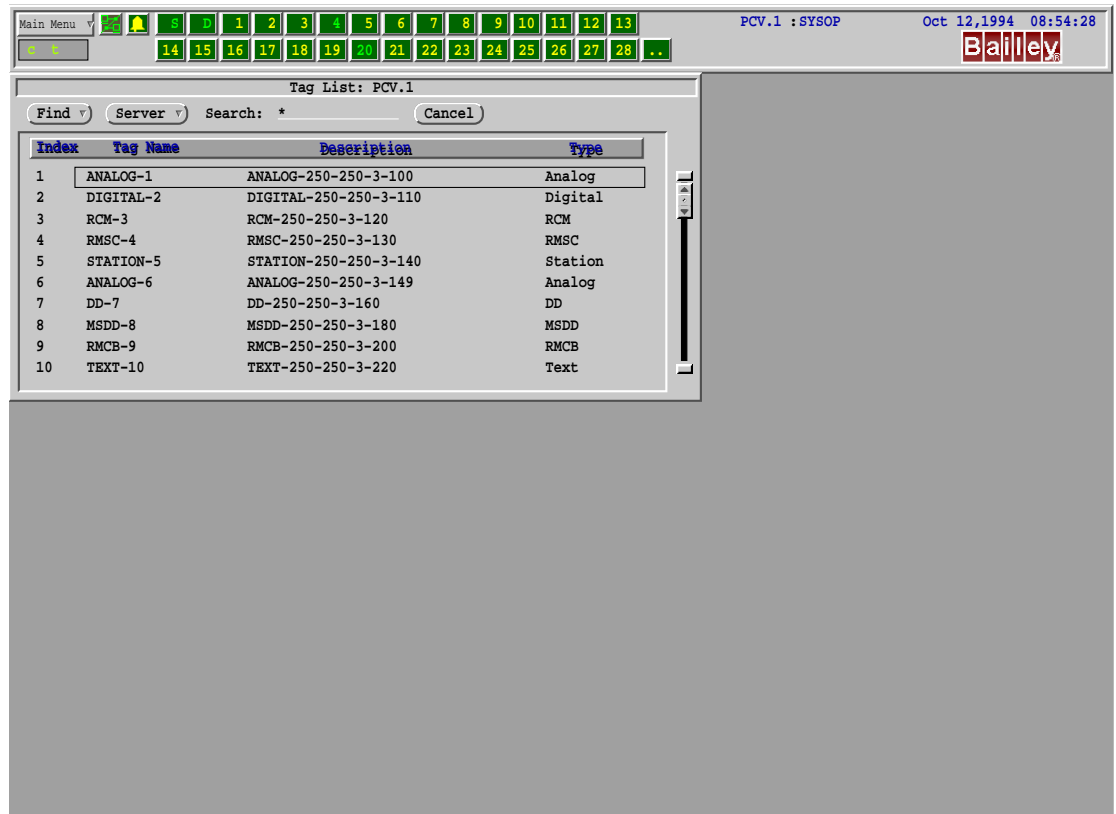

Figure 8-2. Tag List
1. From the Operator Utilities menu. In this mode, you are first asked to choose a tag to monitor from a tag list (Figure 8-2).